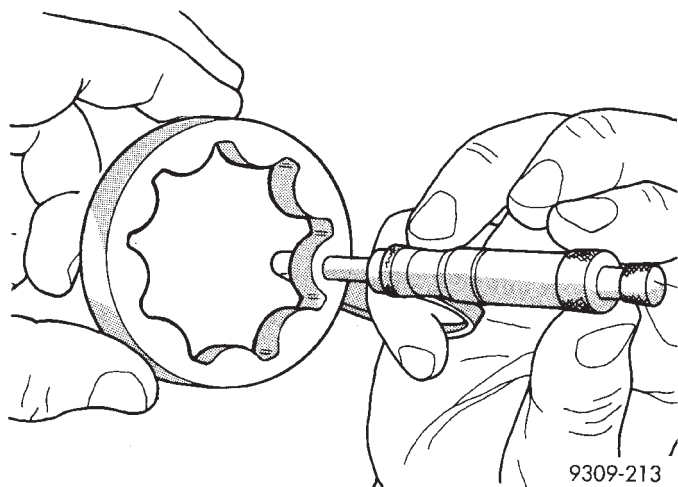

Fig. 8 Measuring Outer Rotor Thickness
- (3) Measure thickness and diameter of outer rotor. If outer rotor thickness measures 7.64mm (0.301 inch.) or less (Fig. 8), or if the diameter is 79.95mm (3.148 inches.) or less, replace outer rotor.